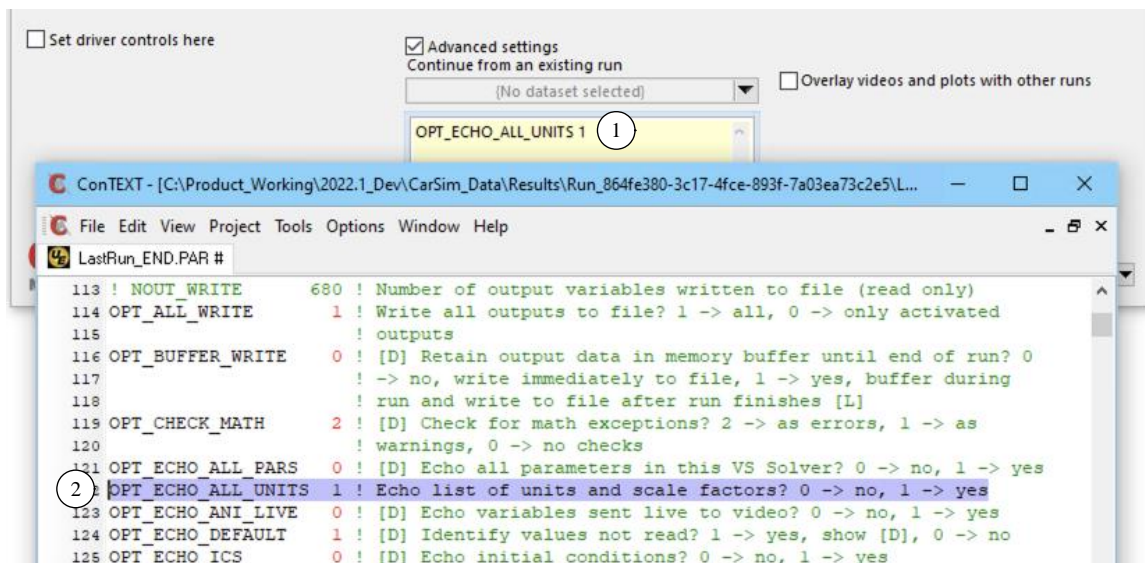
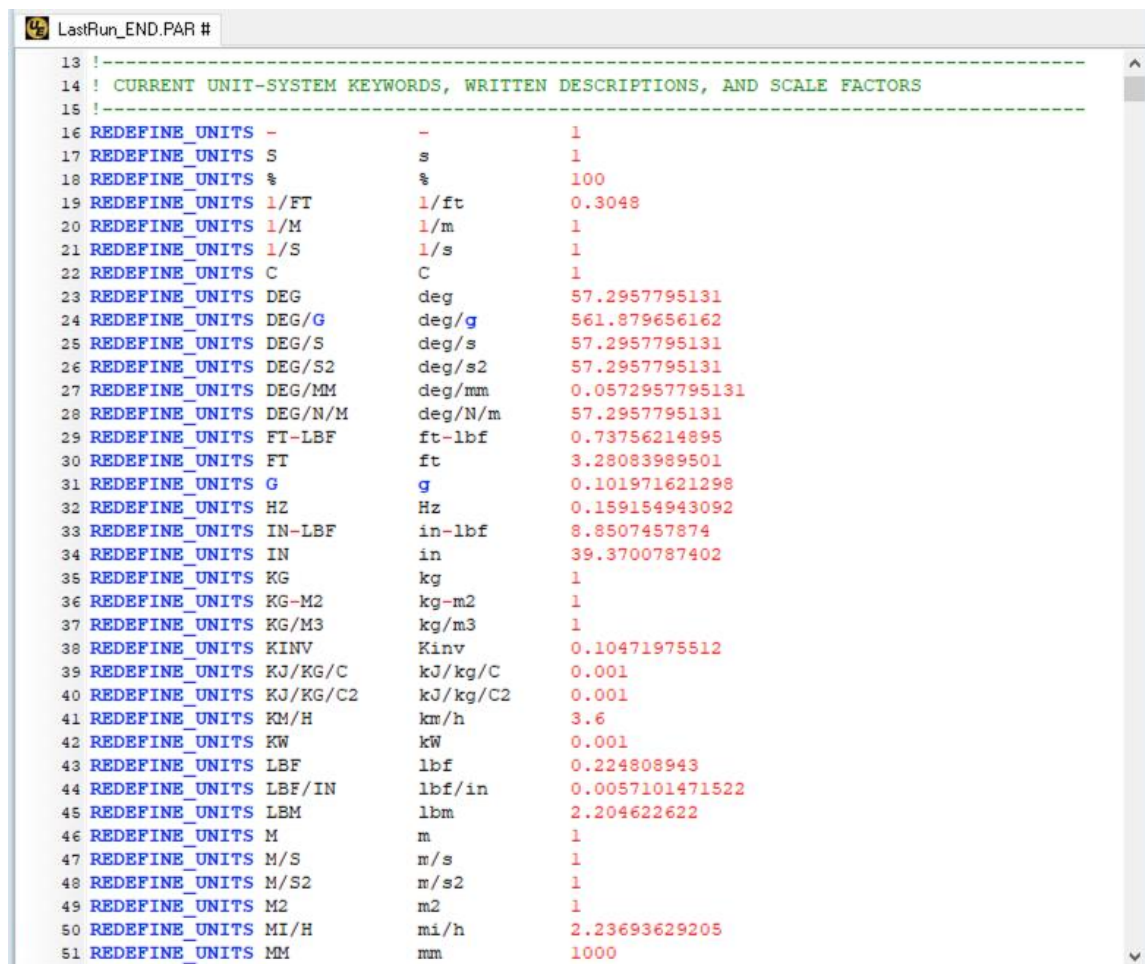

Figure 1. Use the parameter `OPT_ECHO_ALL_UNITS` to show all units in a VS Math Model.
Figure 2. The top part of an Echo file showing units definitions.
VS Math Models include some parameter for setting how much information to show in an Echo file. One of these, `OPT_ECHO_ALL_UNITS` (2) (Figure 1), can be set to 1 (the default setting is 0) in a miscellaneous yellow field (1) to cause the VS Math Model to list all available units in the Echo files written at the start and end of the run. For example, Figure 2 shows part of an Echo file made with `OPT_ECHO_ALL_UNITS` set to 1.
The listing of available units shown earlier (Figure 2, page 2) does not list units for miles. (The only units involving miles are mi/h.)